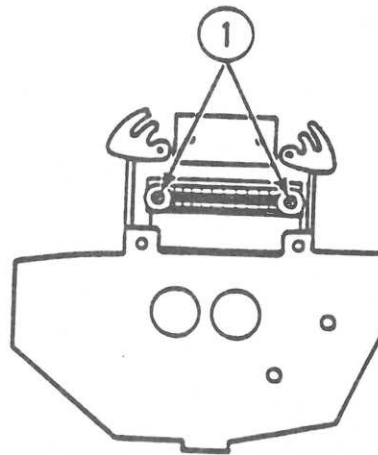

FIGURE 17
4. Remove the two screws holding the dot head connector. (See Figure 17, #1.)